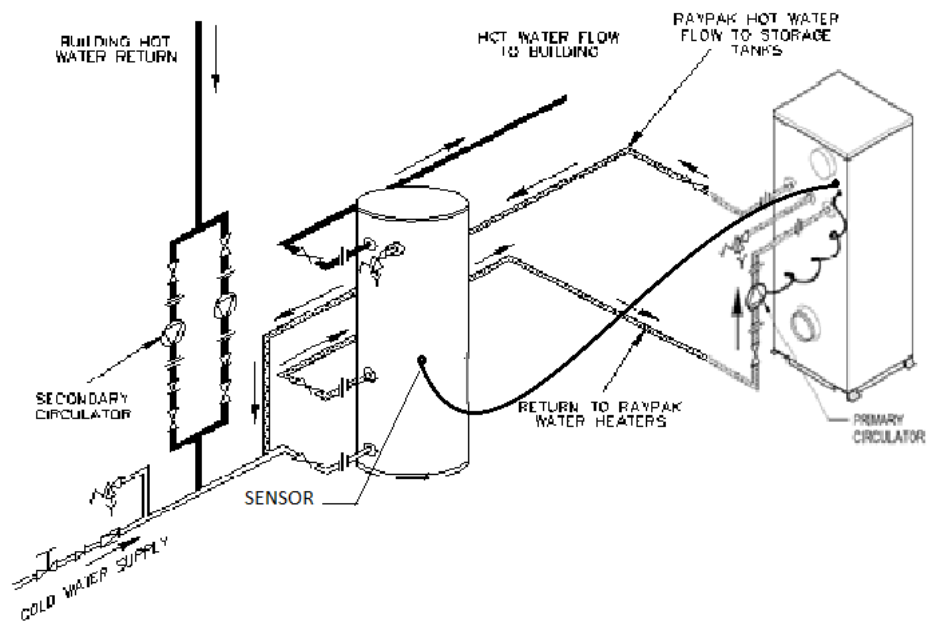

Fig 8: Typical Installation – One Water Heater, One Storage Tank
Note: Inlet water to the water heaters must return from the 2nd fitting on the storage tanks, never from the bottom. This is to ensure preheated water enters the water heater to limit condensation effects in the water heater. Refer to Fig 8 and 9 on page 48.
- Install the pump according to the installation instructions supplied with the pump and as detailed in Fig 8 and 9 on page 48.